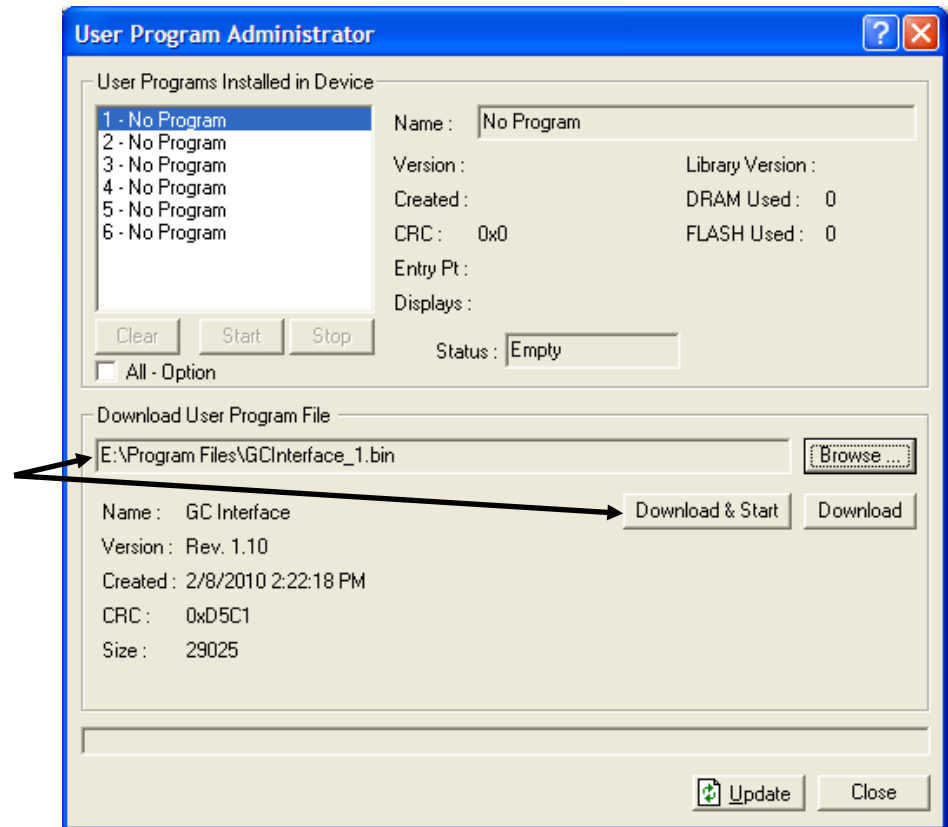

Figure 2-5. User Program Administrator
6. Click **Open** to select the program file. The User Program Administrator screen displays. As shown in *Figure 2-5*, note that the Download User Program File frame identifies the selected program and that the **Download & Start** button is active: